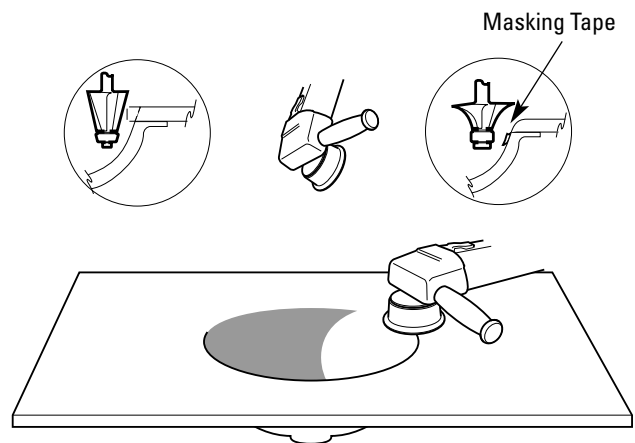

Figure 32
- Rout the sheet back to the bowl using a carbide-tipped bevel bit with a nylon bearing to reduce scoring (see Figure 32). This trim cut approximates the bowl angle.
- Sand the inside seam with 120-grit sandpaper or 100-micron microfinishing film abrasive using a random orbital sander (see Figure 32).
- Finish-sand using 150-grit sandpaper or 60-micron microfinishing film (see Figure 32).